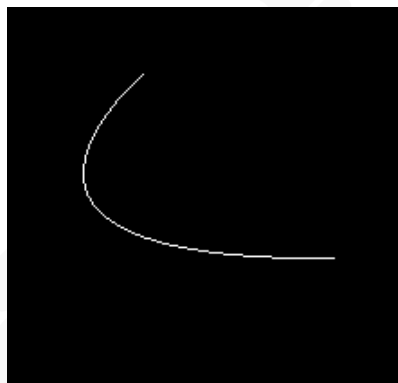

Figure 6-6
Step 2: At this point, click the left mouse button again and drag the curve to a target position. As shown in Figure 6-6.